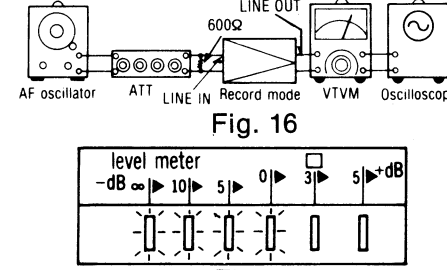

Fig. 16
- Test equipment connection is shown fig. 16.